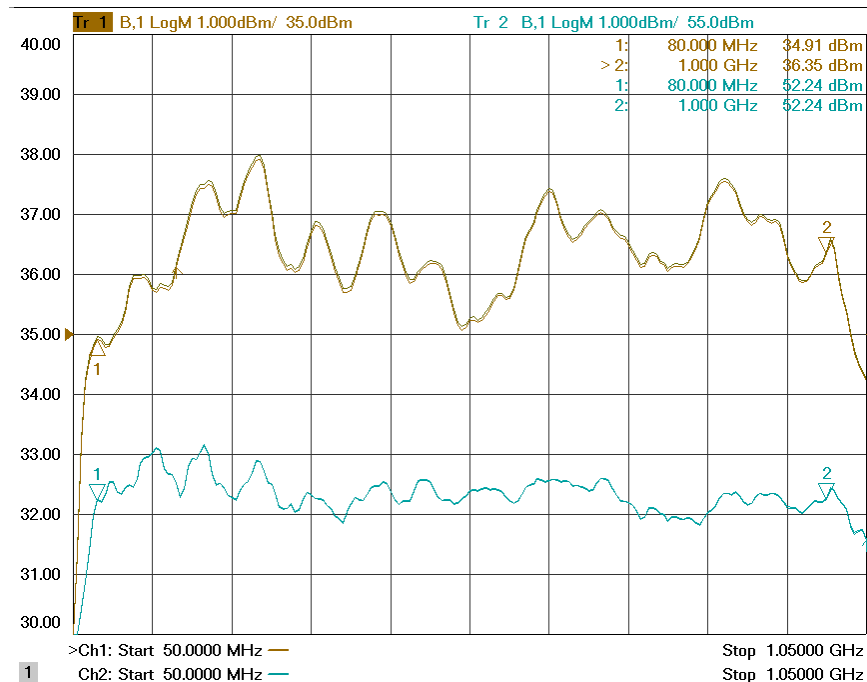

Figure 4-1. Typical Response at -20 and 0 dBm Input
- The Model 150W1000B's typical gain response at 0 dBm input and -20 dBm input is shown in Figures 4-1. The actual gain may vary considerably from that shown in Figure 4-1 but Gain should be ≥ 54 dBm and Power should be ≥ 51.76 dBm. *NOTE: If the overall gain is low, the amplifier chain can be separated at the input of A3 Two-Way Splitter.*